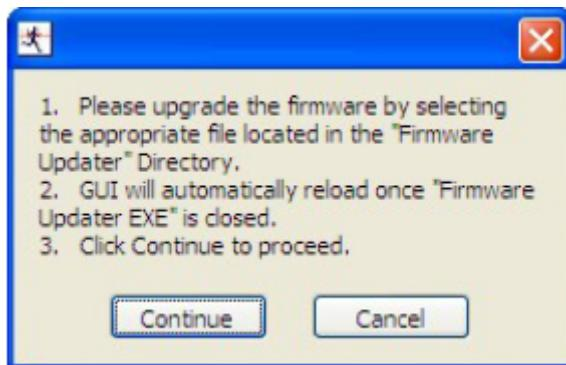

Figure 39. PC Application Firmware Upgrade – 1
- A pop-up window opens as shown in Figure 39. Follow the instructions to continue to Firmware Upgrade or to cancel the operation.